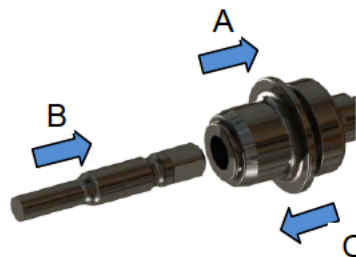

Figure 1: Sequence 1-4 coupling
Pulling the sliding ring (A) opens the lock and the instrument can be inserted (B). Then release the sliding ring (C) and check that the instrument is firmly seated (see Fig. 1).